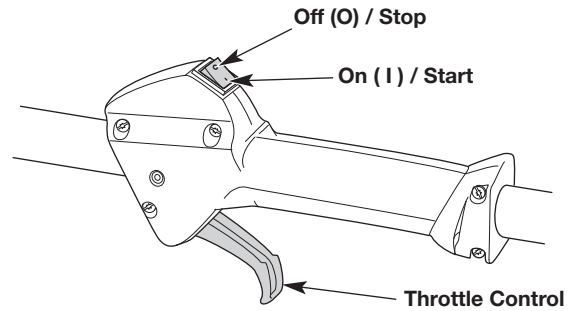
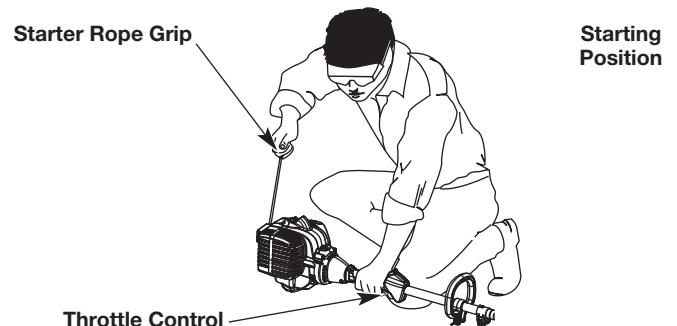

Fig. 8
Fig. 11
WARNING: Avoid accidentally starting the unit. To avoid serious injury, the operator and the unit must be in a stable position when pulling the starter rope (Fig. 11).
NOTE: There is no need to turn the unit on. The On/Off switch is in the ON (1) position at all times (Fig. 8).
5. Crouch in the starting position (Fig. 11).
6. Squeeze the throttle control (Fig. 8) and pull the starter rope with a controlled and steady motion **5 times** (Fig. 11).
2. Press and hold the On/Off switch in the OFF (O) position until the engine comes to a complete stop (Fig. 8).
- NOTE:** There is no need to turn the unit on. The On/Off switch is in the ON (I) position at all times (Fig. 8).
7. Squeeze and hold the throttle control (Fig. 8). Run the electric start accessory for 2 seconds.